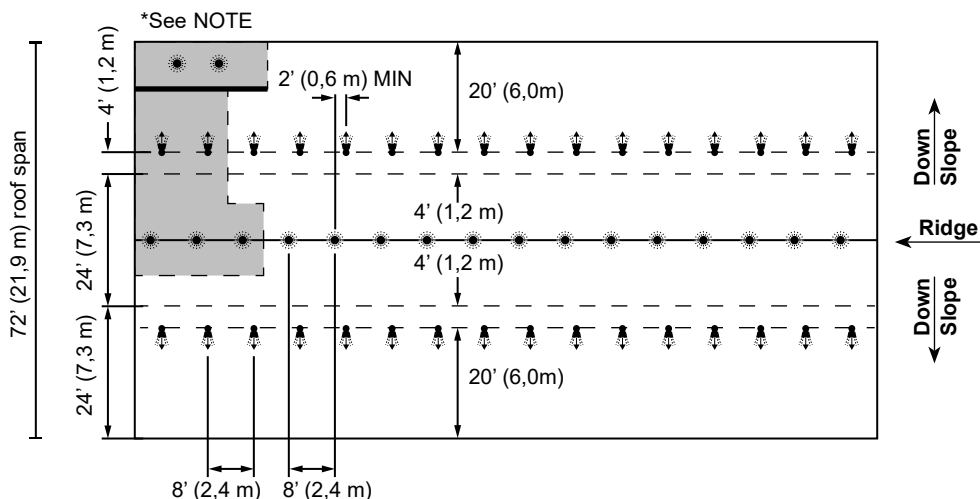

Figure 11B: Wet System Design for 72 ft (21,9 m) Roof Span with Obstruction
2. Figure 11B - Calculate the 5 most demanding sprinklers: